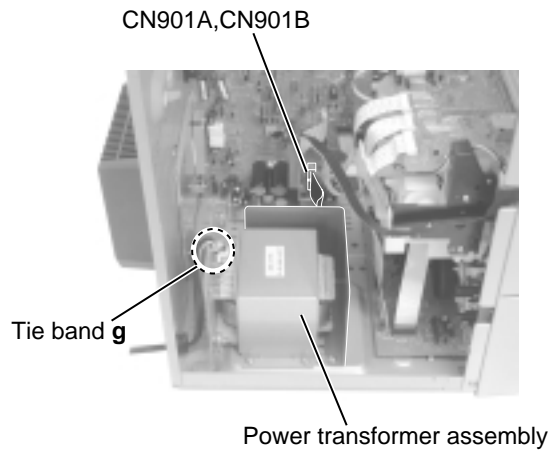

Fig.21
■Removing the power transformer assembly (See Fig.21 to 23)